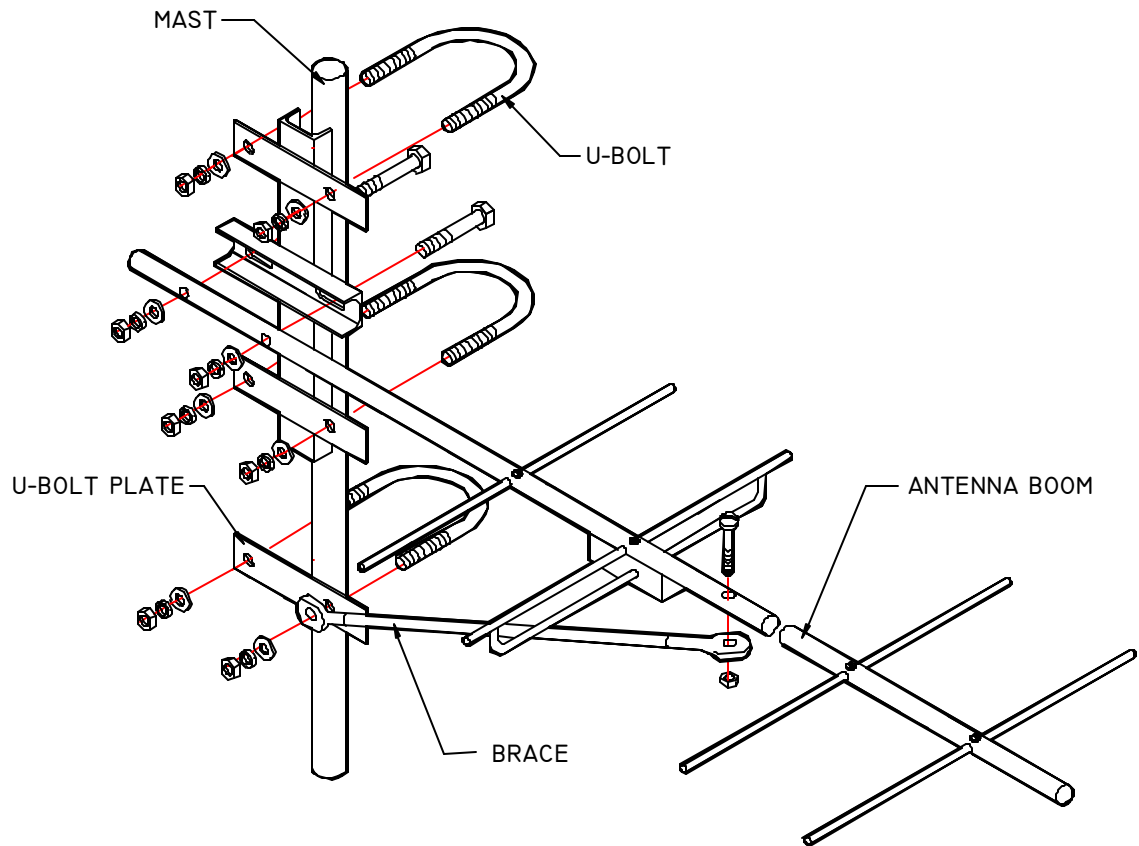

Figure 2
- d. Slide the third U-bolt around the tower / mast and attach the remaining u-bolt plate and the brace to one leg of the U-bolt and tighten them using provided hardware. See Figure 2.